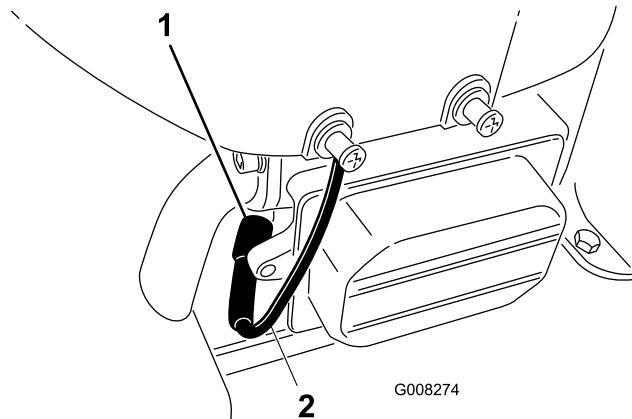

Figure 24
6. Disconnect the wire from the spark plug (Figure 24).
8. Remove the spark plug and the metal washer (Figure 24).
3. Connect the wire to the spark plug (Figure 24).